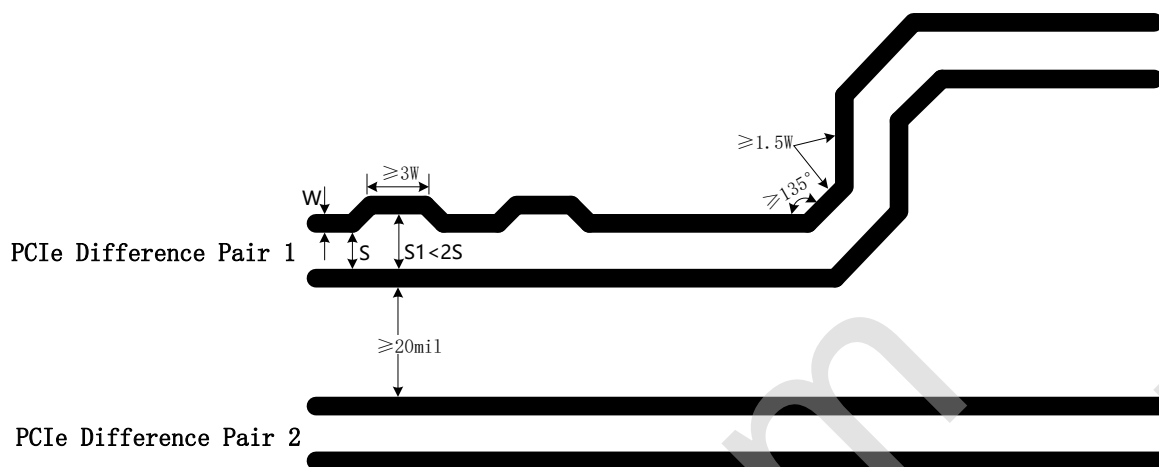

Figure 3-13 Requirement of PCIe line
- Try to avoid bended lines and avoid introducing common-mode noise in the system, which will influence the signal integrity and EMI of difference pair. As shown in Figure 3-13, the bending angle of all lines should be equal or greater than 135°, the spacing between difference pair lines should be larger than 20mil, and the line caused by bending should be greater than 1.5 times line width at least. When a serpentine line is used for length match with another line, the bended length of each segment should be at least 3 times the line width ( $\geq 3W$ ). The largest spacing between the bended part of the